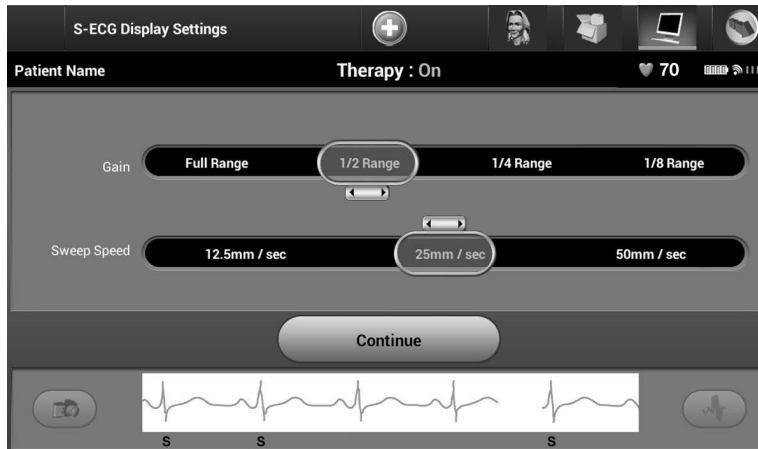

Figure 44: *Adjusting Gain and Sweep Speed*
2. Select and drag the Gain or Sweep Speed Scale bars as desired (Figure 44). The S-ECG scale will change according to the selected setting. The gain setting controls the visual gain. The programmer defaults to Full Range for pulse generators with a gain setting of 1x and to 1/2 Range for pulse generators with a gain setting of 2x. The Sweep Speed slider controls the display speed of the scrolling Live S-ECG. The nominal sweep speed setting is 25 mm/sec.